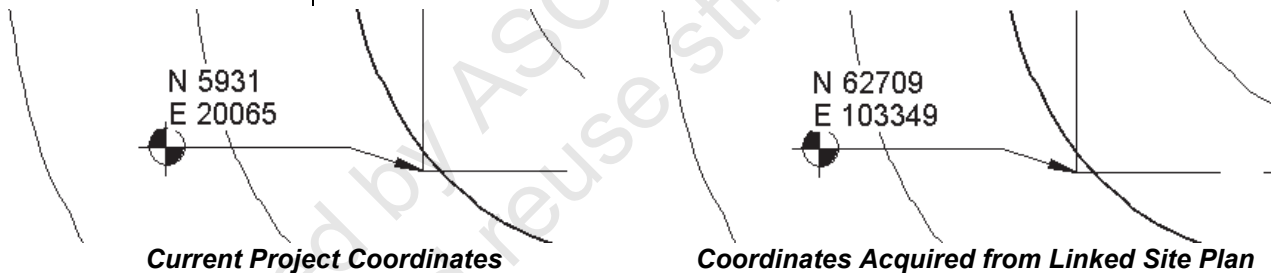

Figure 1–32
- If you are working in a project with linked models and want the linked models to adopt your coordinates, you would publish your coordinates to them. Publishing coordinates is also used when you are linking or copying more than one file or model. For example, you might have a project that has multiple buildings, like a campus, or multiple rooms that are the same, like an apartment complex (as shown in Figure 1–33). You can define unique positions for each of the copied linked models by specifying a named position through the link's instance properties.